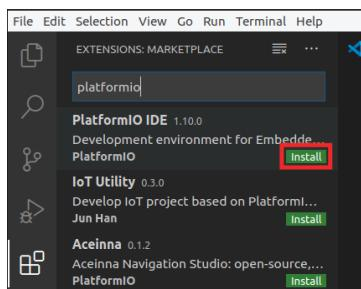

Figure 98. PlatformIO IDE Extension
4. Type *PlatformIO* in the search box and install the PlatformIO IDE by clicking on the install button next to it (see Figure 98).